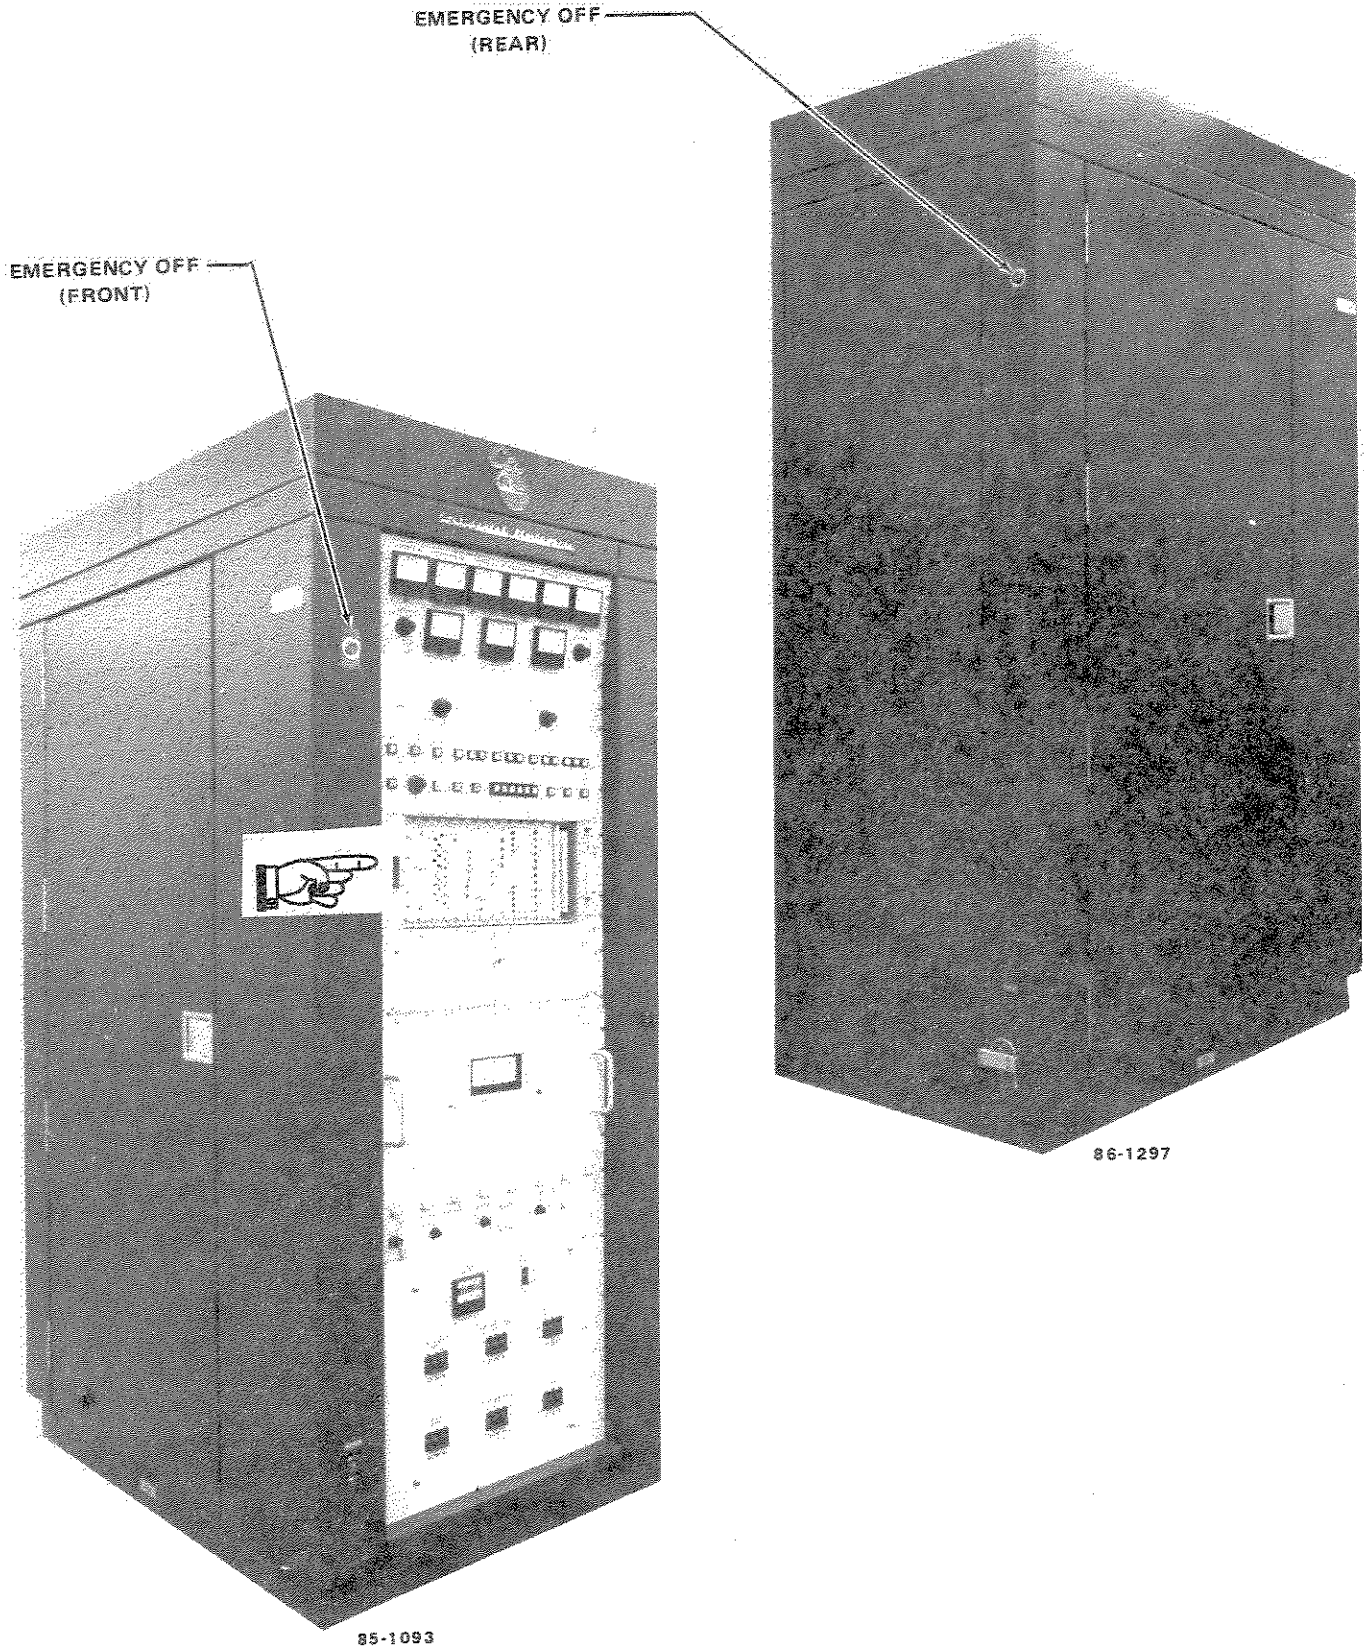

Figure 4-16. Emergency OFF Switches
1. Press EMERGENCY OFF switch located on front or rear of cabinet 1 (Figure 4-16). When either switch is pressed, input power is removed by interruption of the main 208 V ac Shunt Trip Coil.